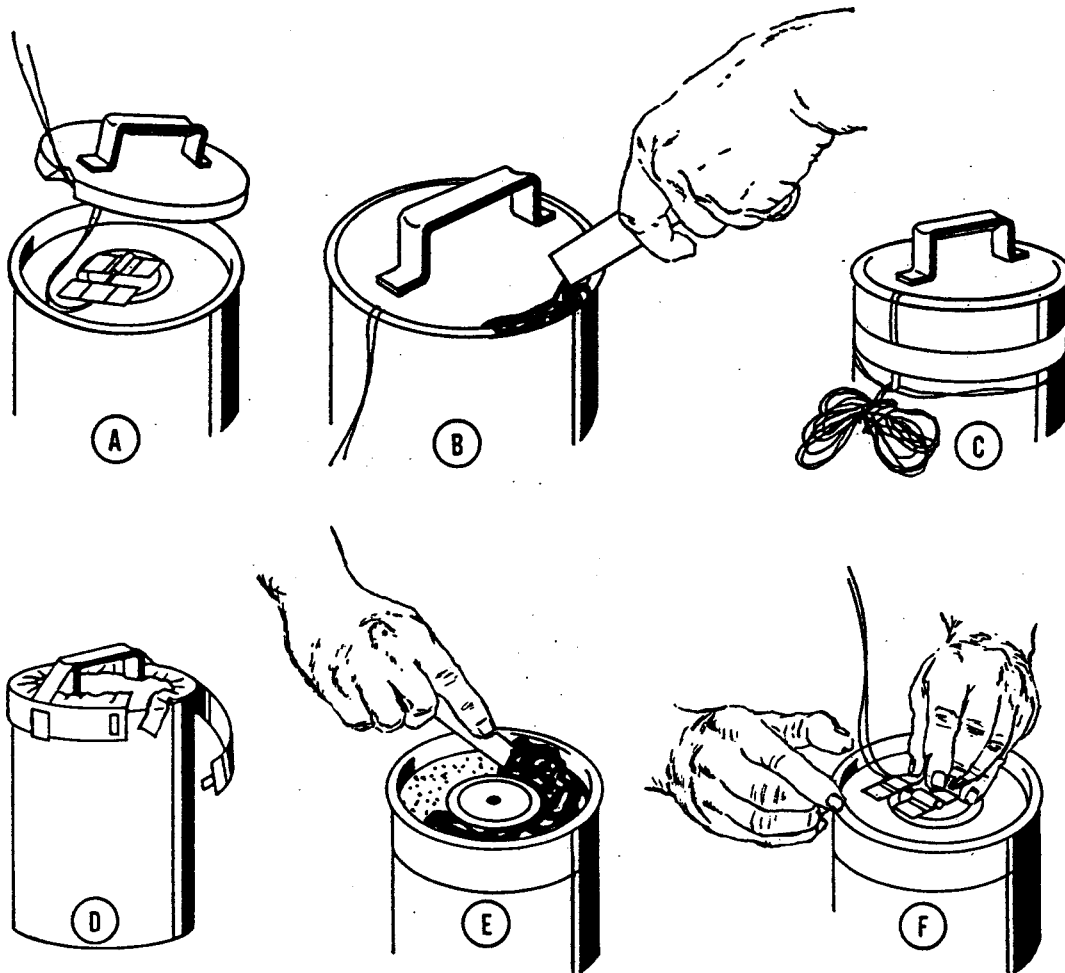

Figure 5. Preparing the M1 HC smoke pot for electric ignition.
- (1) The M1 flash-vented electric squib (par. 121a) is used to ignite the M1 smoke pot electrically. (This squib is not a component of the M1 smoke pot; it is issued separately.) Preparation for electric ignition is explained in (2) below and illustrated in figure 5. To ignite the pot, connect the lead wires from the squib to a source of electric current. Power sources, wire, and wiring for electric ignition are discussed in paragraphs 120 through 123.
- (2) To prepare the M1 smoke pot for electric ignition, remove tape, clamp, and cover (A, fig. 5). Remove sealing com-